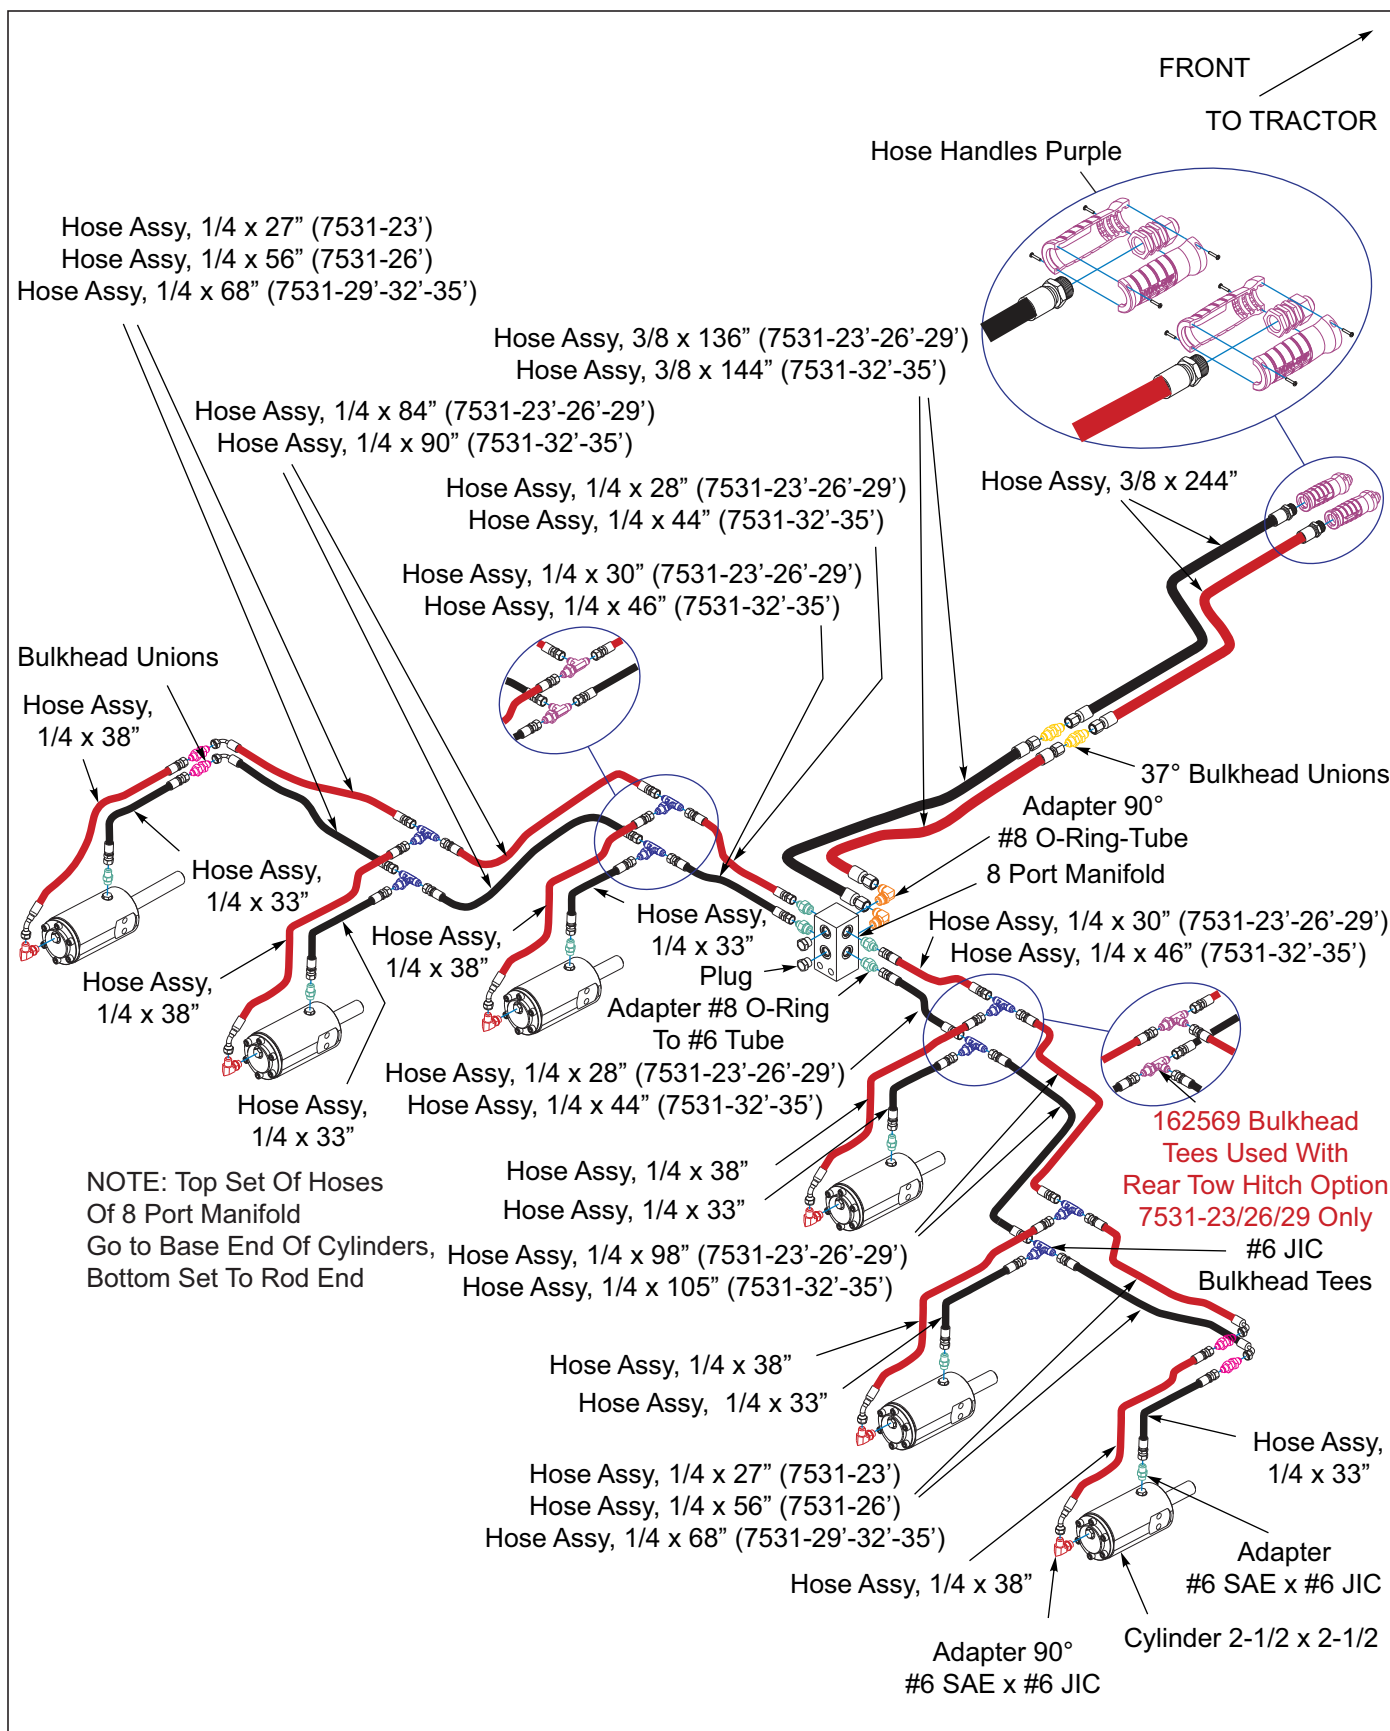
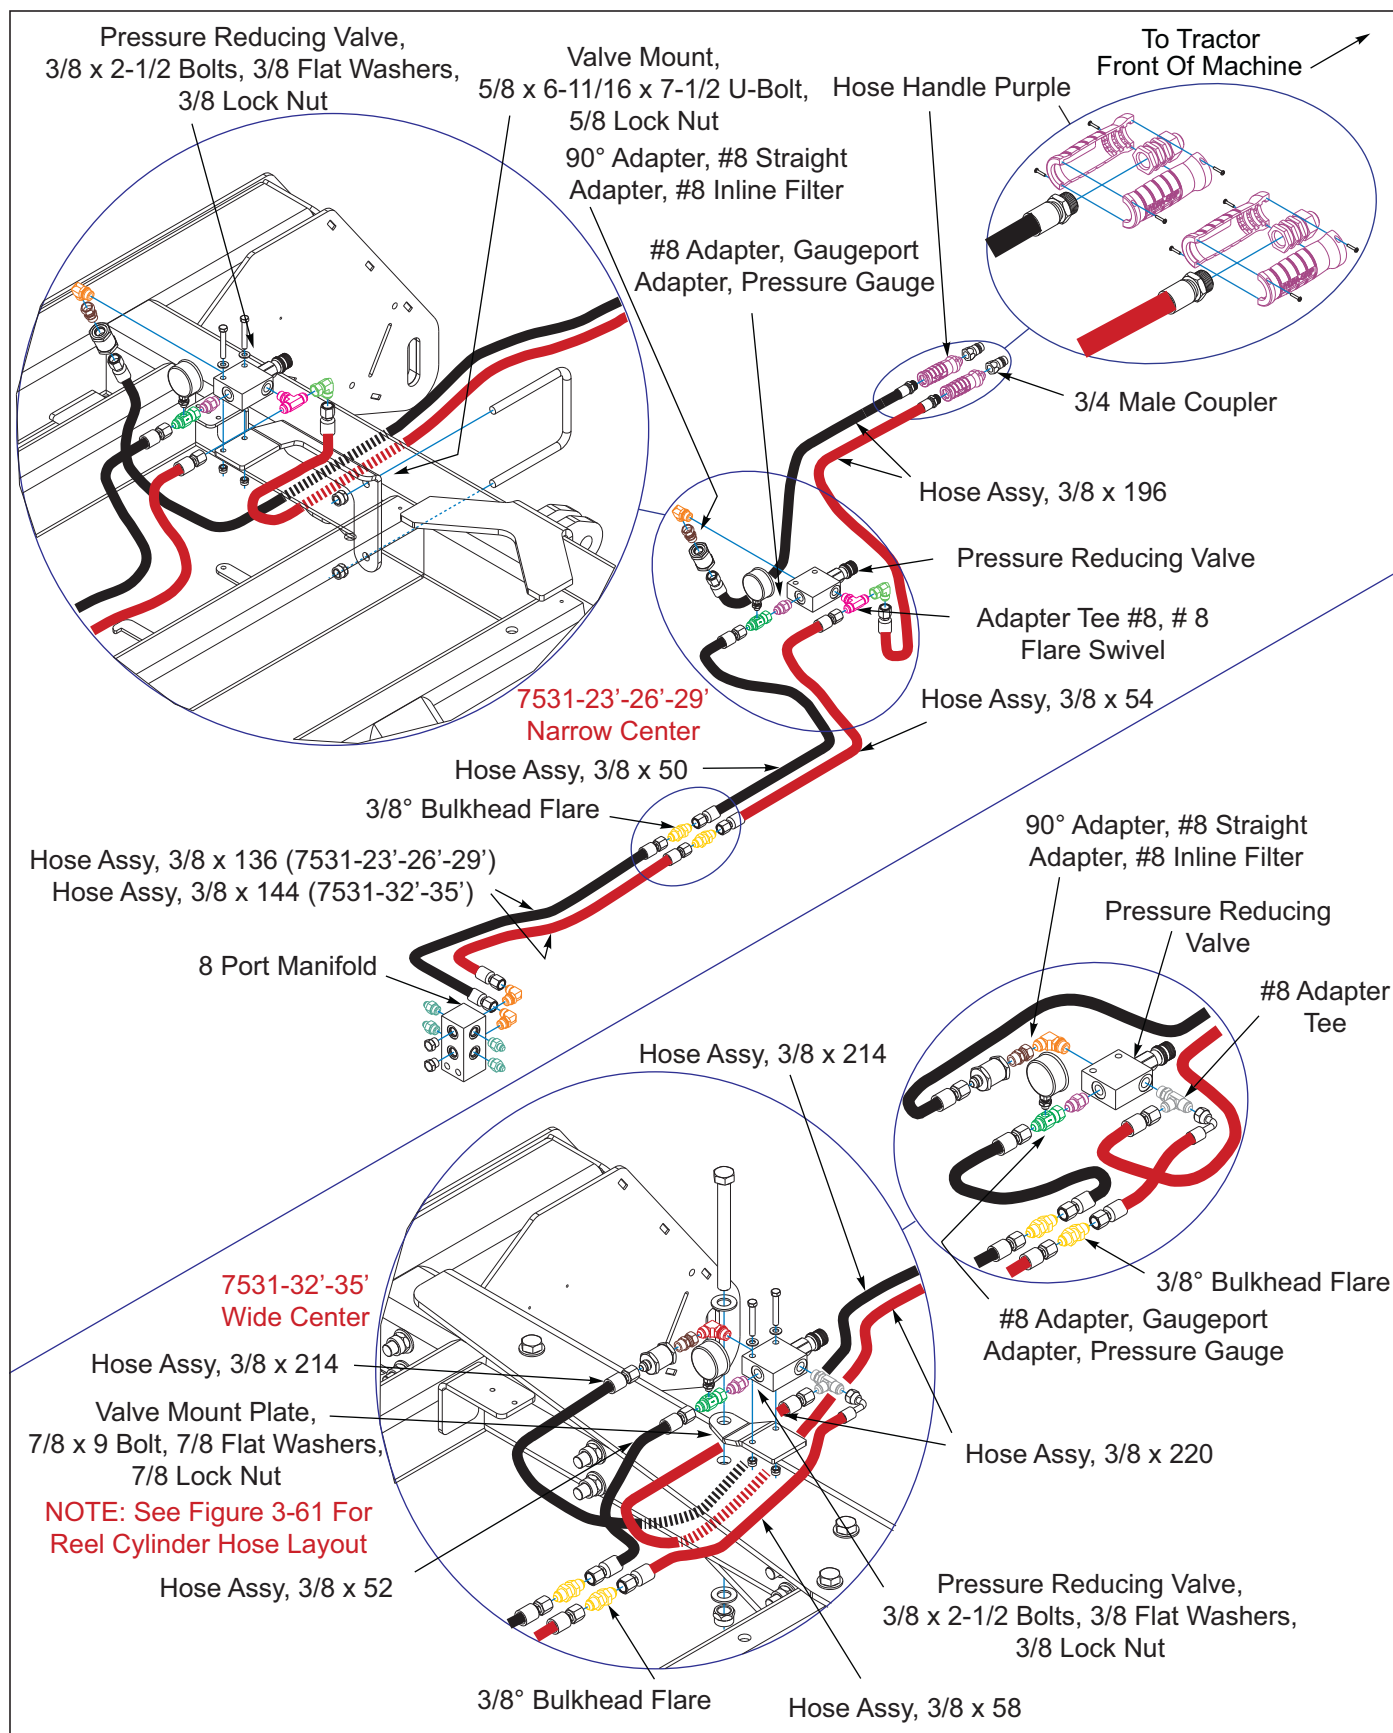

Figure 3-61: Reel Hydraulic Assembly
Figure 3-62: Live Reel Hydraulic Assembly
2. Install cylinders, fittings and hoses as shown **See Figure 3-61**.
4. Install (4), 1/2 clamps at the rear of the reel arm support the hoses. The bottom hose should be 33" going to rod end of the cylinders. The top hole is 38" going to the base end, the 45° fitting attaches to the cylinder.
For Live Hydraulic Reel Option See Figure 3-62 for front hydraulic assembly. Rear hydraulic assembly is the same as Reel Hydraulic Reel See Figure 3-61.